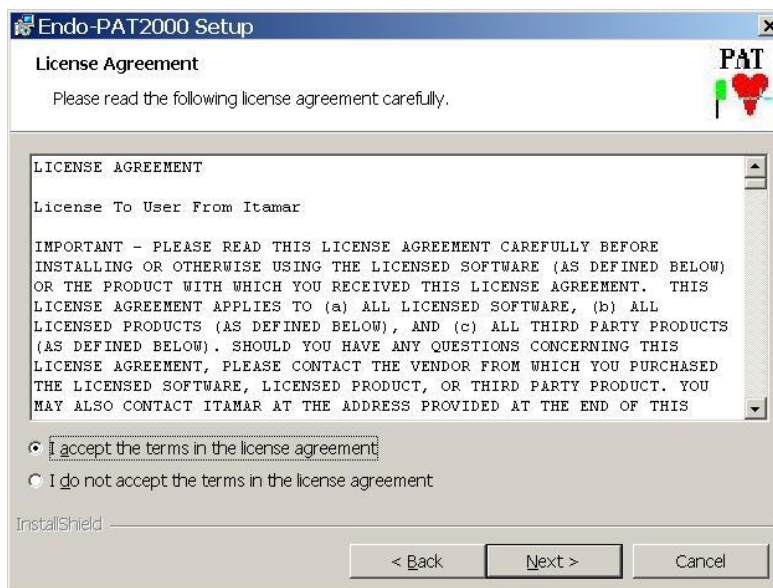

Figure 5 - License agreement
4. Read the license agreement and select the “I accept” option to agree to license terms. Continue with the installation by pressing “next” (Figure 5). Click “I do not accept” if you do not accept the license terms and wish to abort the installation.